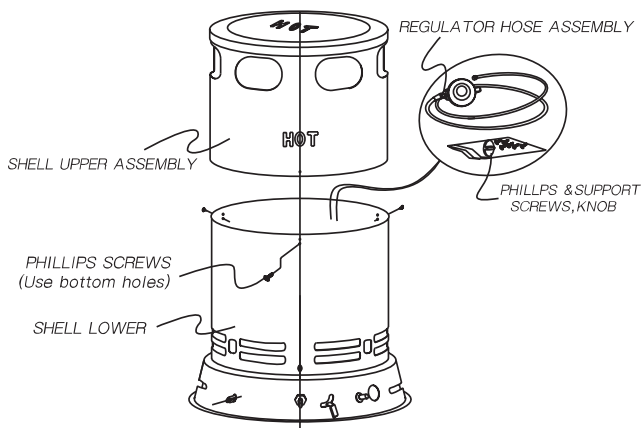

Figure 3: Assembly screw placement
- To connect to heater inlet, rotate clockwise and tighten firmly with a wrench (see Figure 3).